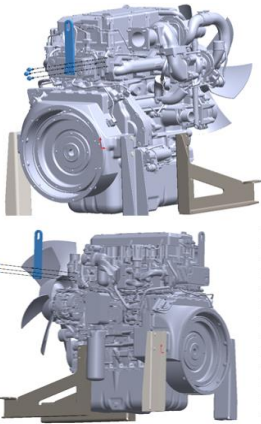

Figure 1
1. Remove the lift eye and associated bolts on flywheel and fan side that are supplied with the engine as shown in figure 1 on the next page.